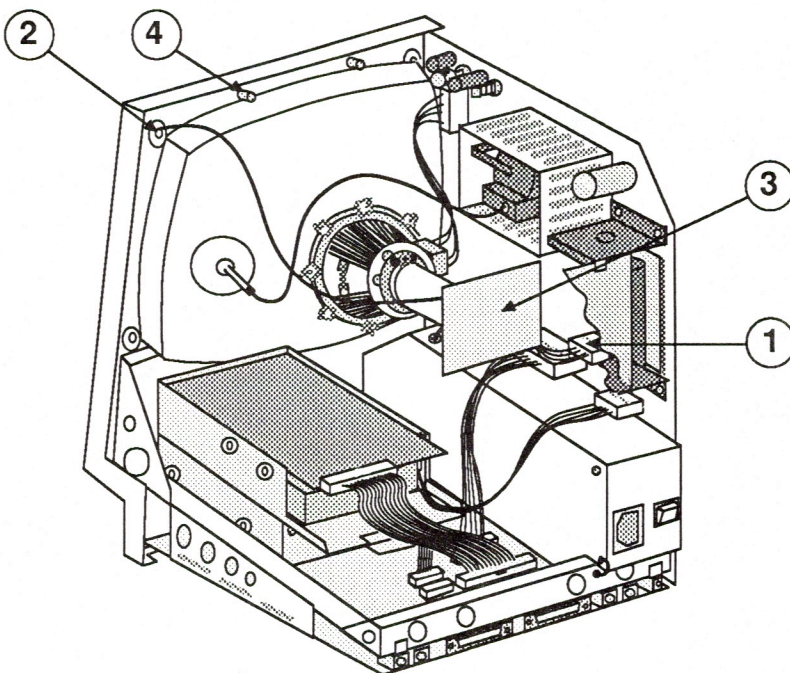

FIGURE 19
4. Disconnect the video board connector (Figure 19, #1) from the analog board.
5. Remove the Torx screw holding the video ground wire to the upper left CRT mounting bracket (Figure 19, #2).
6. Carefully pull the video board (Figure 19, #3) off the neck of the CRT.
1. Reconnect the video board (Figure 19, #3) to the neck of the CRT. It fits only one way.
2. Place the video ground wire tab over the upper left CRT mounting bracket and replace the Torx screw (Figure 19, #2). Be sure the ground wire is routed away from the case screw holder (Figure 19, #4).
3. Reconnect the video board cable to the analog board (Figure 19, #1).